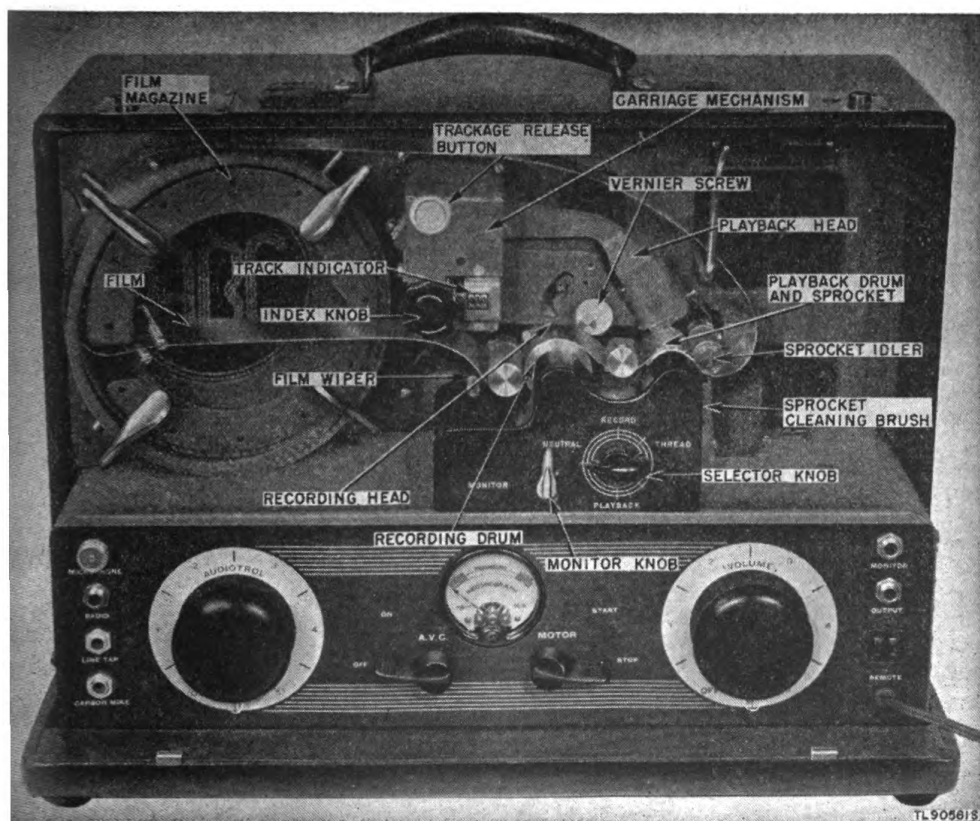

Figure 1. Sound Recording Set AN/UNQ-1, front view.
been changed to read LINE-CARBON MIKE. The label under the jack marked CARBON MIKE has been changed to read MIKE BATTERY. The labels appearing on the front of Sound Recording Sets AN/UNQ-1 and AN/UNQ-1A, in addition to the names of parts whose identifications are not indicated by labeling on the set, are shown in figures 1 and 2. Also located on the front of the sound recording set are the film magazine, carriage mechanism with recording and playback heads, and the recording and playback drums with the sprocket and sprocket idler. A cloth film wiper is used to clean the under side of the film. A sprocket cleaning brush is also used. The power cord enters the lower right-hand corner of the lower panel. For a complete description of the functions of the controls, see paragraphs 13 to 21, inclusive.
**Caution:** The selector knob (fig. 1) should point to NEUTRAL. This position is set at the factory and SHOULD ALWAYS REMAIN SO WHEN THE SET IS NOT IN USE.